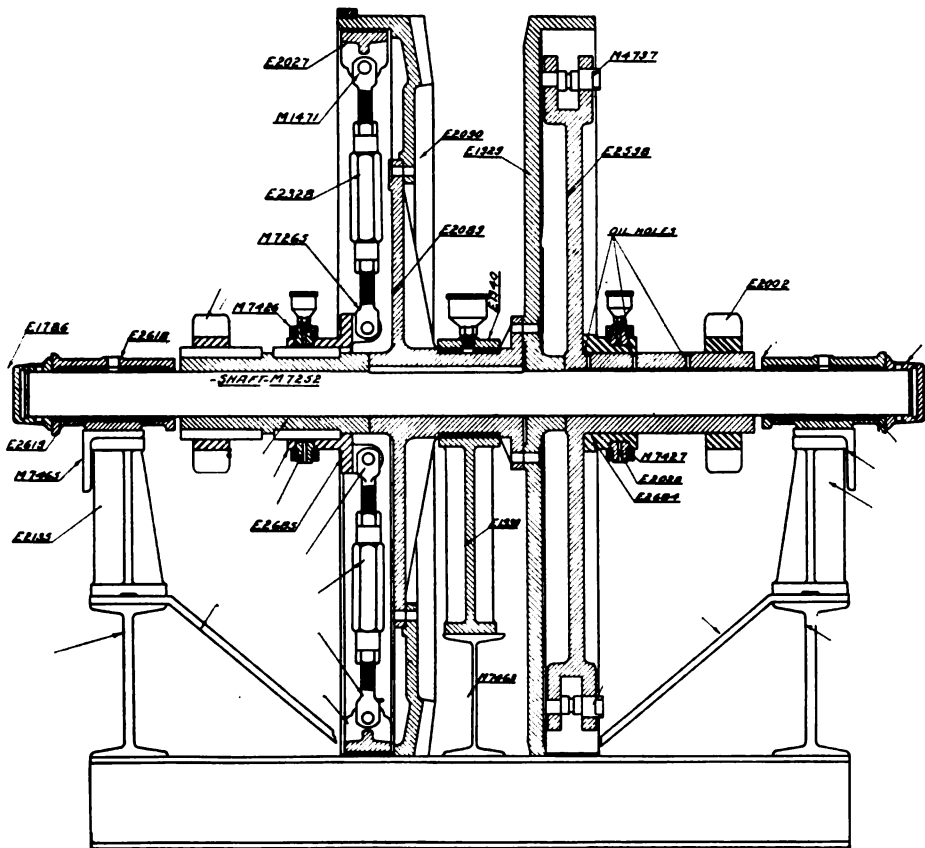

Fig. 43. Countershaft Assembly
- 244 — The countershaft assembly comprises the countershaft and all the parts that work on it. The countershaft assembly receives its power from the bevel pinion on the transmission through the bevel ring gear E2090. The feature of the countershaft assembly is the ability to throw one side or the other of the track out of motion, enabling the operator to apply all the power of the tractor on one track when required. Fig. 43 shows a cross-section of the countershaft assembly.
- 249 — The countershaft is supported on three main bearings in which grease cups are fitted. One bearing is at each end of the countershaft and one bearing is on the flanged coupling E2089 in the exact center of the countershaft. A good, medium grade of cup grease should be used and the grease cups should be turned up once every hour. The friction arms rotate over the countershaft and move with it except at such times as one track or the other is thrown out of motion. Little holes are located directly under the friction slide and the clutch has to be thrown to "out" position to apply lubrication. To lubricate these parts, it will be necessary to move the tractor till the oil holes point up. Apply cylinder oil to these holes and be sure that the oil finds its way in, as neglect of this part will cause the friction arm to cut on the shaft M7252. The oil holes are shown on the right half of Fig. 43. Apply oil to these holes under each friction slide once an hour. Bevel ring gear and pinion must be lubricated with "Gear Dope." Place a quantity of "Gear Dope" in small can and place near cylinders. When thin enough to pour, apply an even, thin coat every $2\frac{1}{2}$ hours.